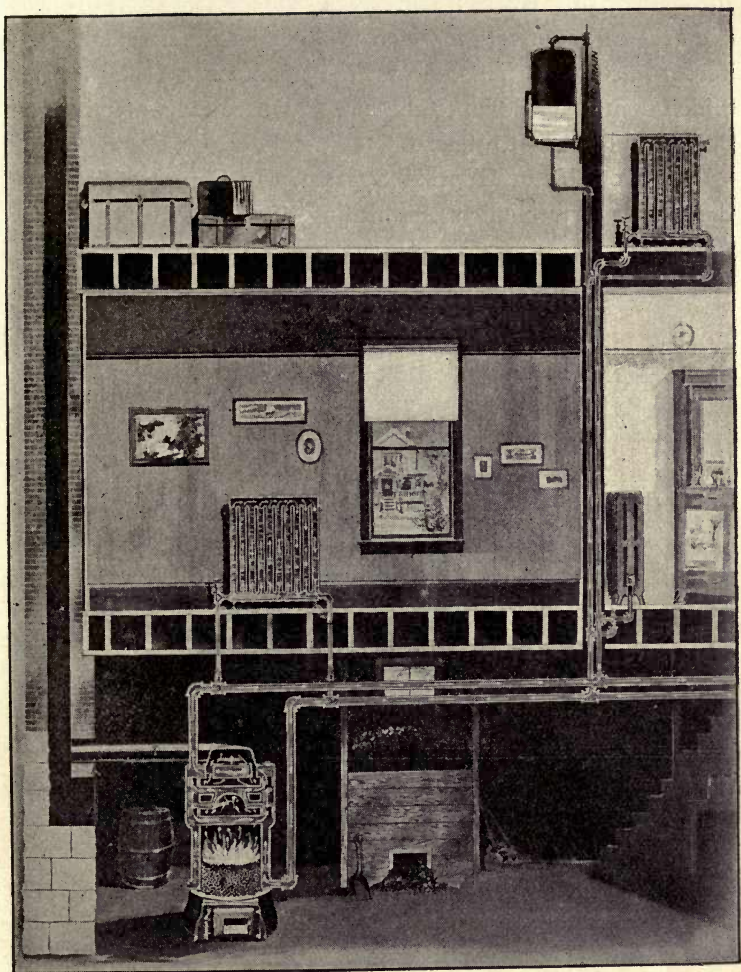

FIG. 36.—HOT WATER HEATING SYSTEM
81. Hot Water Heating System. In Figure 36 is shown the use of convection in the heating of a house by hot water.